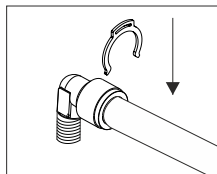

Fig. 4
- 2) Secure the connection with a clip (Fig. 4).